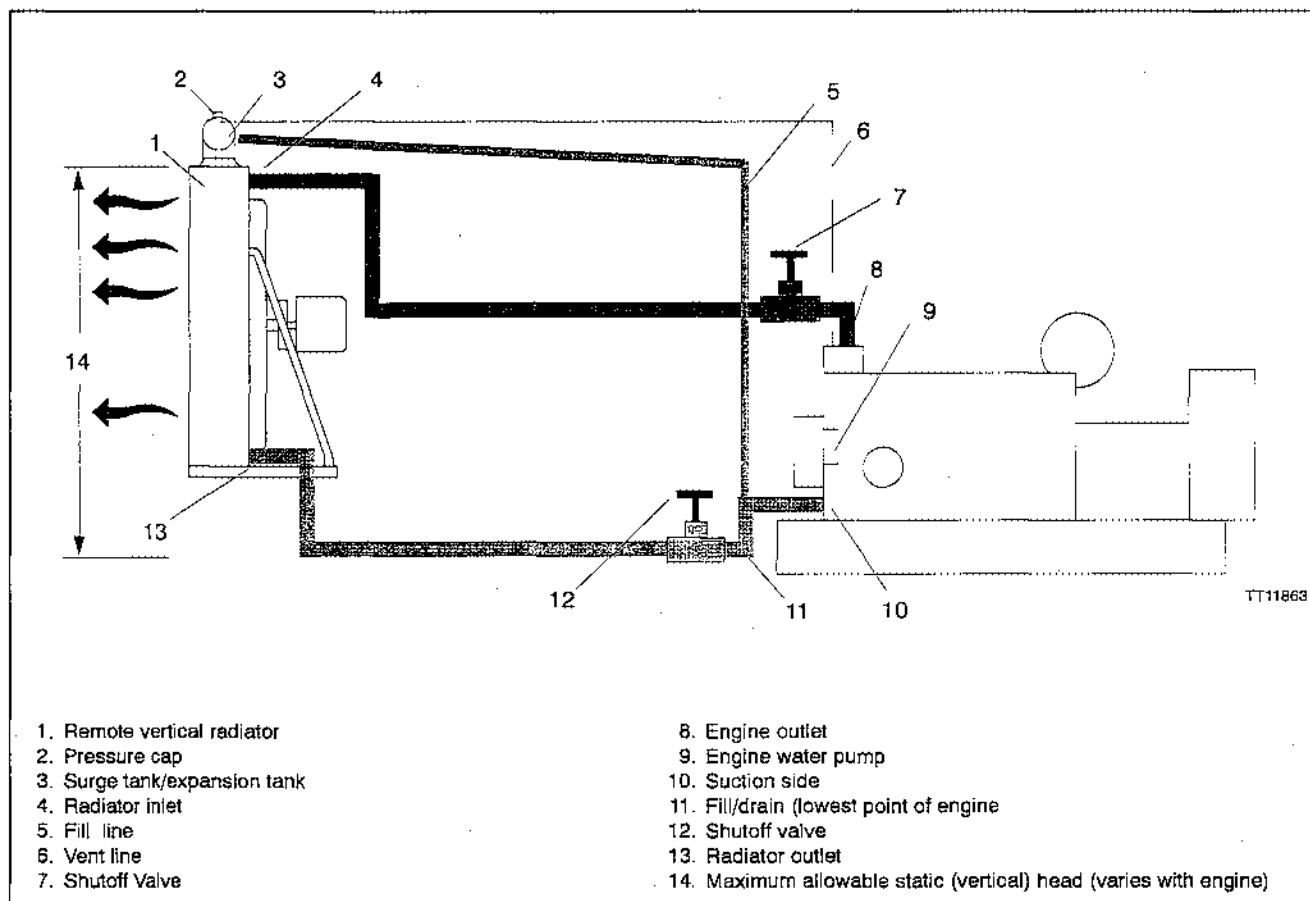
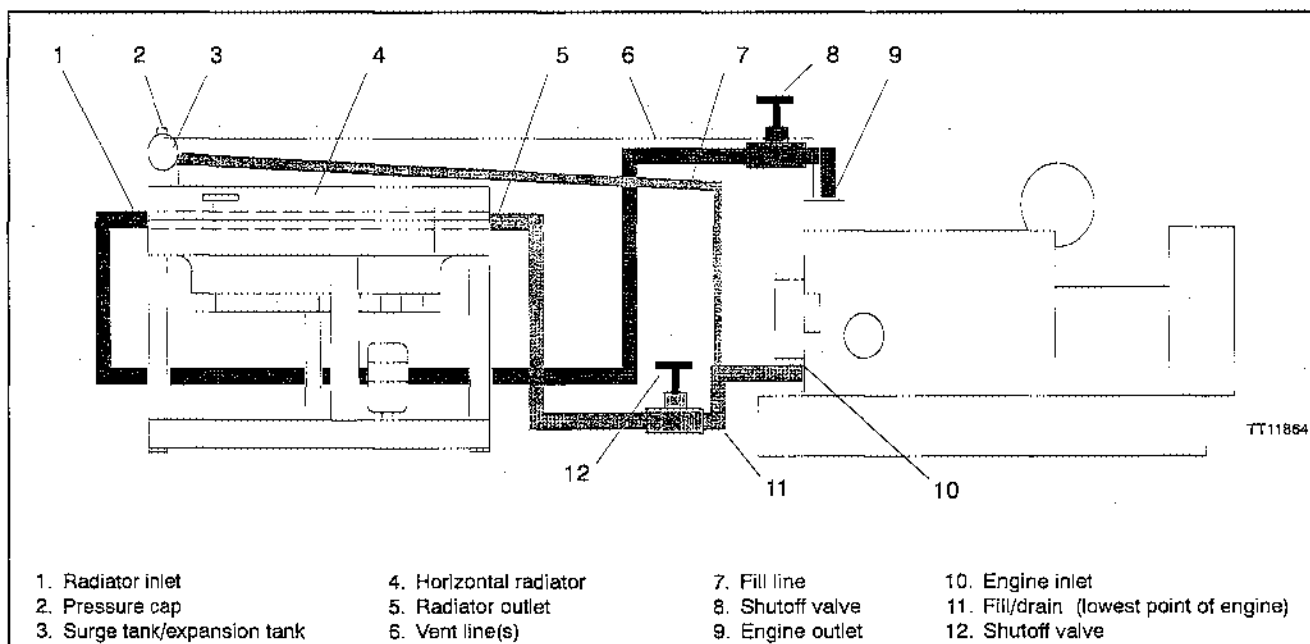

Figure 4-7 Remote Vertical Radiator System
Figure 4-8 Remote Horizontal Radiator System
System limitations. Cooling systems are limited by radiator cap ratings. The maximum radiator operating pressure is 138 kPa (20 psi) and the maximum operating temperature is 121°C (250°F). Radiators are available for vertical or horizontal discharge. See Figure 4-7 and Figure 4-8.
A horizontal discharge remote radiator requires the use of a surge (expansion) tank as shown in Figure 4-8. Locate the tank at the highest point in the cooling system. The surge tank provides venting, surge/expansion protection, and filling/makeup functions.
- Connect the main line from the surge tank to the highest point of the remote radiator. Most vertical core radiators have the surge tank as part of the radiator top tank. The setup illustrated in Figure 4-8 provides for radiator and engine deaeration and a positive pressure at the pump suction inlet.